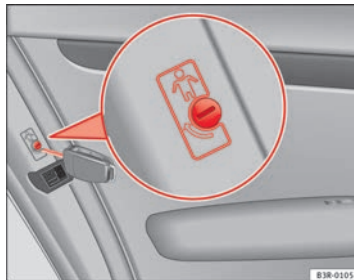

Fig. 76 Childproof lock on the rear doors
- Turn the key in the direction of the arrow ⇒ Fig. 76.